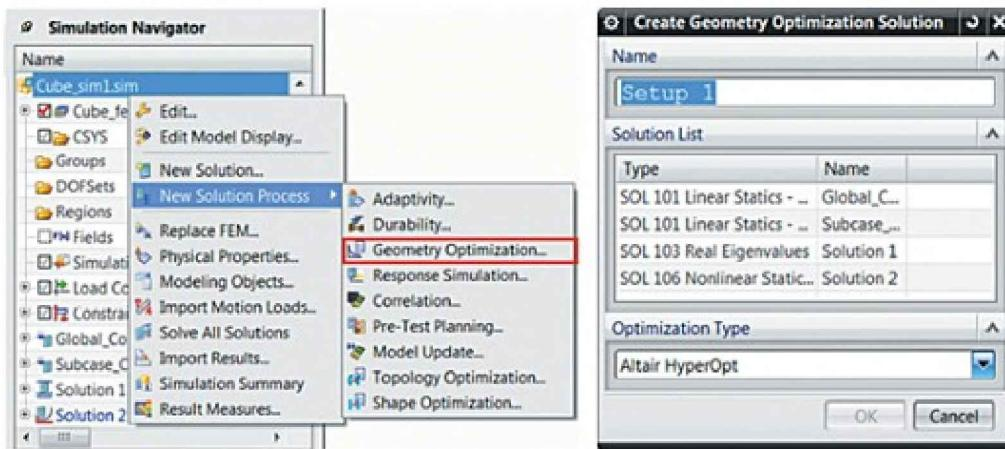

Figure 1.33. Running the **Geometry Optimization** module
- In the shortcut menu of the simulation file in the **Simulation Navigator tab**: **New Solution Process***Geometry Optimization* (Figure 1.33).
- In either case the **Create Geometry Optimization Solution** opens, where you need to select the solution to use for geometry optimization (Figure 1.33), and the optimization type: